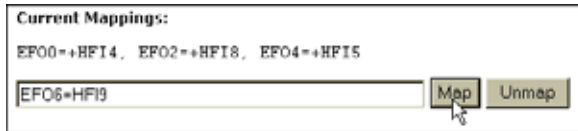

FIG. 287: CURRENT MAPPINGS/GROSS WEIGHT/CHANNEL 2 (HFI9) ASSIGNED TO HARDY CONTROL-LINK FLOAT OUT/WORD 4 (EFO4)
Step 37. Click on the Select button. Net Weight/Channel 2 (HFI9) appears in the Current Mappings field to the right of the Hardy Control-Link Float Out selection (EFO6) (See Fig. 287).